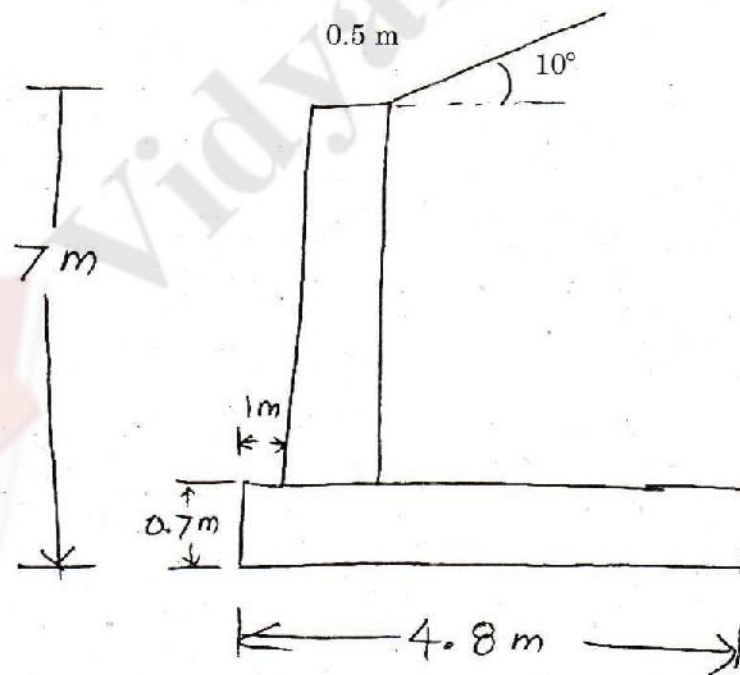

fig.15(b)
- (b) For the cantilever retaining wall shown in fig.15(b), determine the maximum and minimum pressure under the base of the cantilever. The relevant shear strength parameters of the backfill and foundation soil are $C' = 0$, $\phi = 35^\circ$ and unit weight of the soil $\gamma = 17.5 \text{ kN/m}^3$. The unit weight of the wall material is 23.5 kN/m^3 . Find also the factor of safety against sliding, considering the reduced value of base friction as $\frac{2}{3}\phi$.